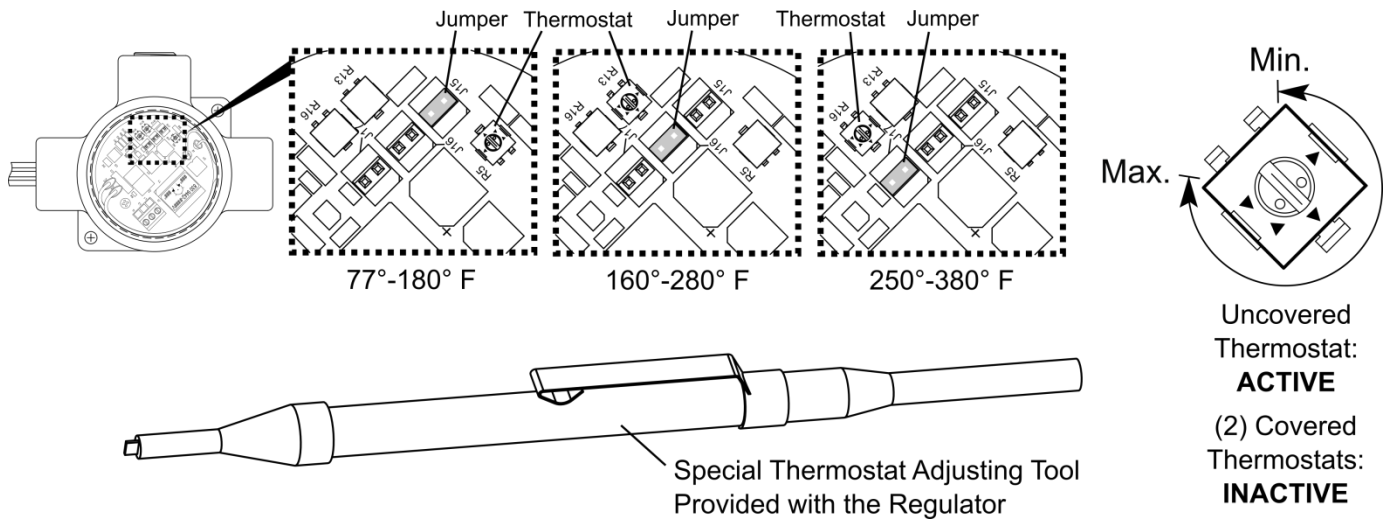

Figure 4 – Thermostat Location
3. Using the thermostat adjusting tool provided with the regulator, adjust the thermostat. This tool must be used to prevent damage to the thermostat. Refer to Figure 4 for thermostat location. Note that fully counterclockwise (CCW) is the lowest setting in the range. Fully clockwise (CW) is the highest temperature in the range.